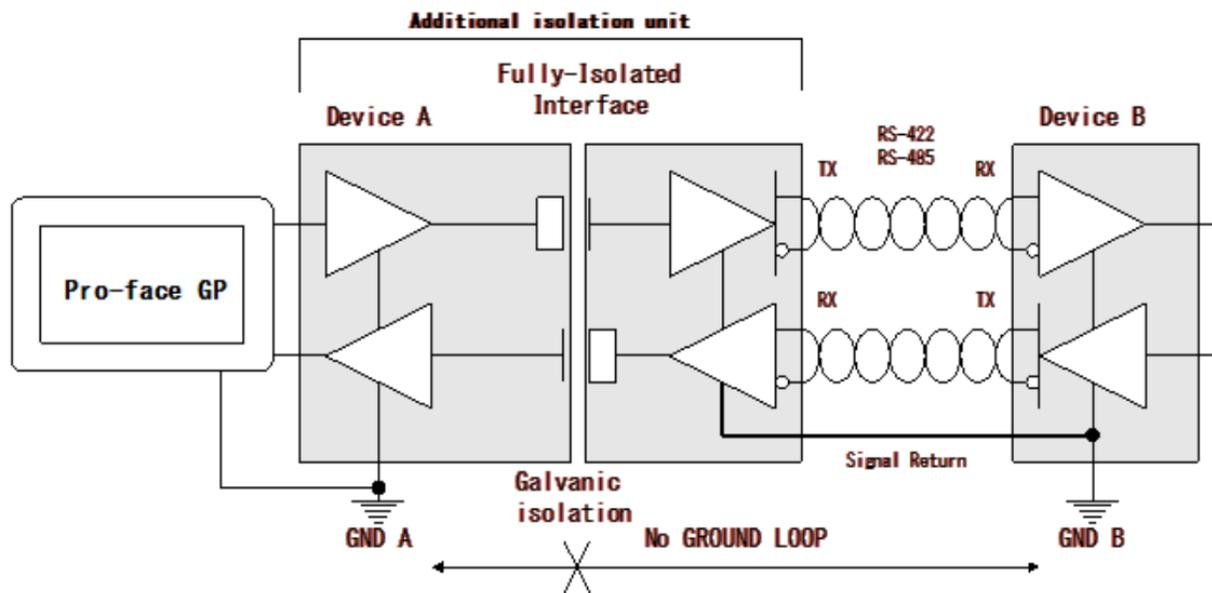

Figure 6: Isolation Unit Adapters & Diagram
## #5. Install an Isolation Unit cable adapter (Figure 6)
- There are several commercially available isolation units available (Figure 6)